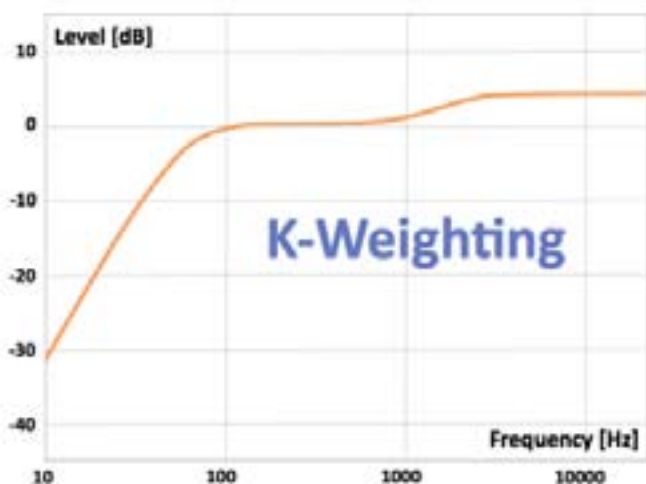

Figure 3: ‘K-Weighting’ as the basis of loudness measurement in ITU-R BS.1770
The International Telecommunications Union (ITU) recognised the problem and its work gave rise to **ITU-R BS.1770** [2]. The purpose of that standard was to establish an agreed algorithm for the measurement of loudness and the true peak levels of programmes. It is a robust standard which has the benefit of a simple implementation. In brief, it defines a “**K-weighting**” curve (a modified second-order high-pass filter, see figure 3) which forms the basis for matching an inherently subjective impression with an objective measurement. This weighting curve is applied to all the channels (except the Low-Frequency Effects Channel (LFE) which is discarded from the measurement), the total mean square energy is calculated (with different gain factors for the front and surround channels; see figure 4) and the result is displayed as “LKFS” (Loudness, K-Weighting, referenced to digital Full Scale). For relative measurements, Loudness Units (LU) is used, where 1 LU is equivalent to 1 dB.